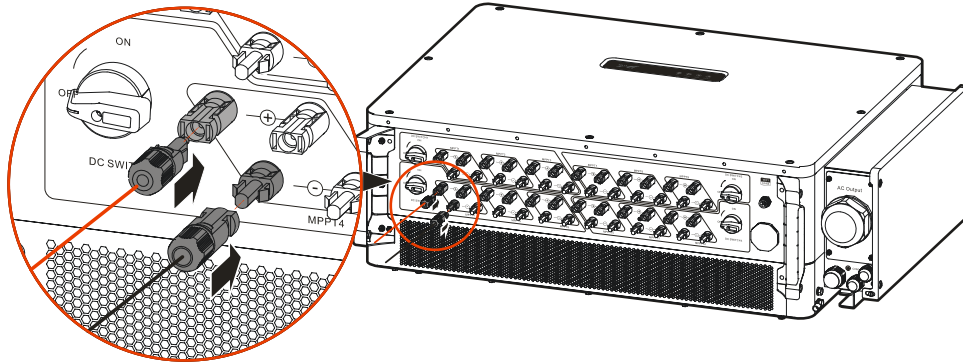

Figure3-43 Connect PV connectors
- Step 3 Insert the positive and negative connectors into the MPPT "+" and "-" terminals on the bottom of the inverter respectively (as shown in Figure3-43). When you hear a click, it means the connection is completed.